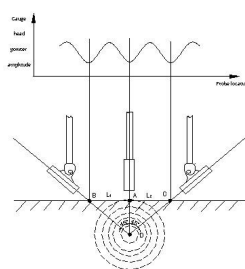

Figure 4.
The method is as follows: firstly, the null value method is used to find out the low-voltage cable routing, and this point is set as point A; Then rotate the probe into a 45-degree Angle with the probe rod. The lower end of the probe is attached to the ground and vertically aligned with the direction of the low-voltage cable. Move it horizontally (left and right). When the first null value of the received signal appears, i.e., when the sound is the minimum, record the point as B (C), and the straight-line distance of AB (AC) point on the ground is the buried depth of the low-voltage cable, AD. The general error is about 5CM. (see figure 4) this method is also called triangulation: